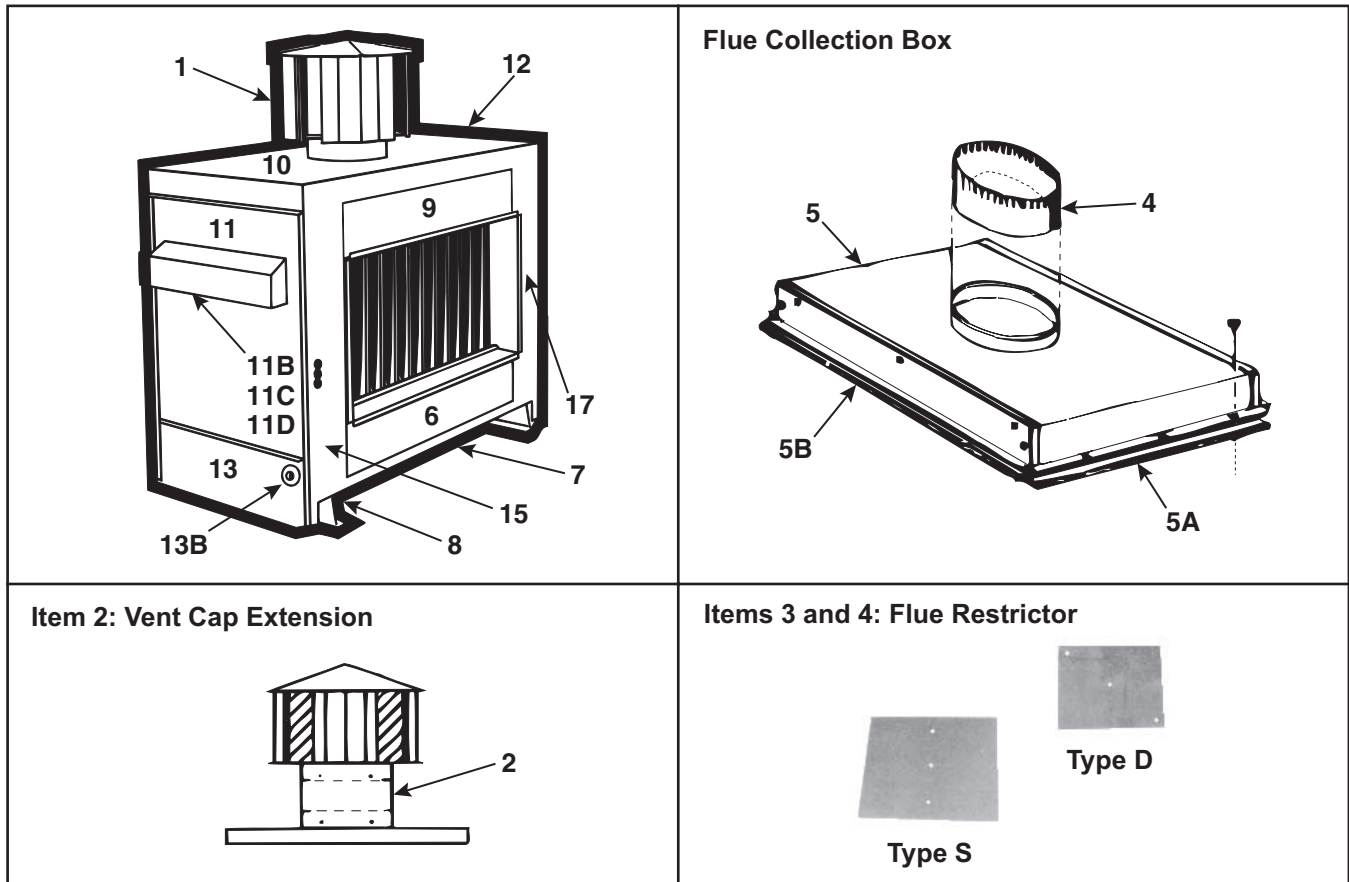

Figure 10. RG Model Flue Box Components (Refer to Table 16)
- Flue box components for RG models are shown in Figure 10 and listed in Table 16 and Table 17. Quantities listed are per furnace section. The same parts are used in RG duct furnaces in packaged RGB and RGBL models.